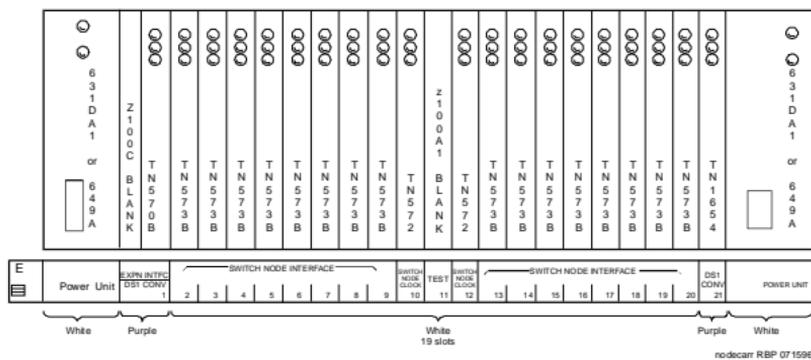

Figure 36. Switch Node Carrier (J58890SA) — Front
Figure 36 shows a typical J58890SA Switch Node (SN) Carrier and the circuit pack slots. This carrier is in Release 5r only. AC or DC power units at each end of the carrier supply power to the carrier.